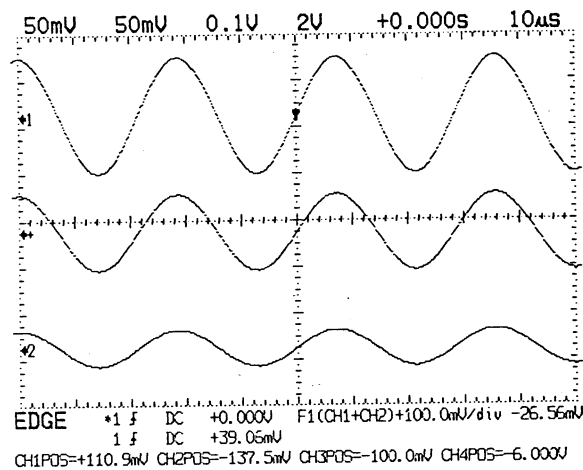

Fig. 6-30 Example of added waveform screen
- Then, the menu disappears and the screen shown in Fig. 6-30 is displayed.